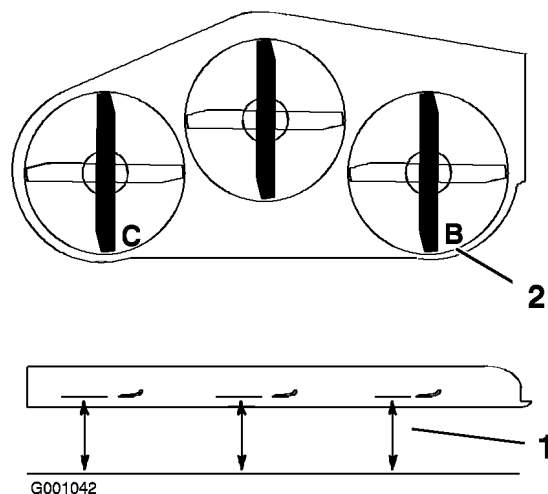

Figure 65
2. Position the blades side-to-side (Figure 65). Measure at **B** and **C** locations (Figure 65) from a level surface to the cutting edge of blade tips (Figure 65).